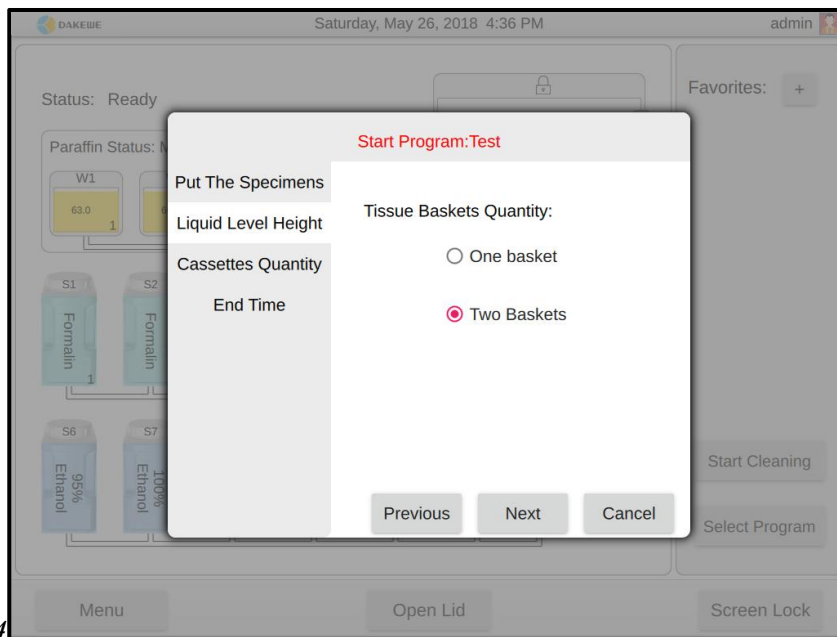

Figure 74
- Select the number of tissue sample baskets (Figure 74).